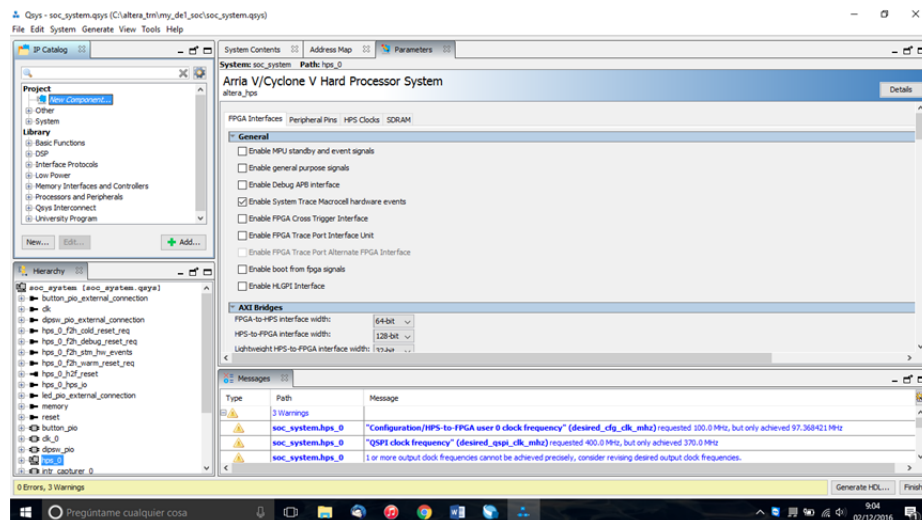

Fig. 88: Creation of a new component for the Library
2. Now you will need to add the *blinker* to the system. Since this is a custom module, you will first need to create a new *qsys* component for it. Go to the "Library" window and double-click on "New Component" (see Fig. 88).